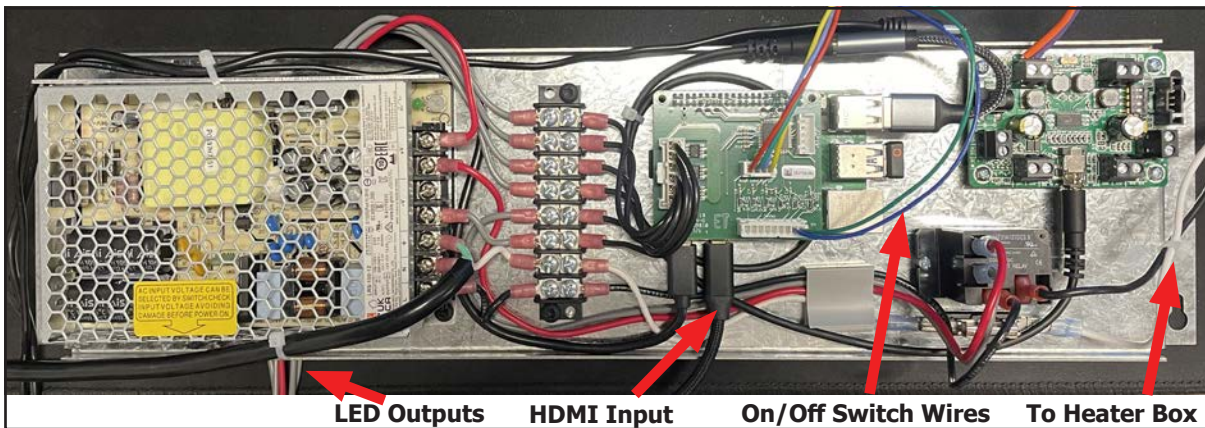

Figure 24: Component Tray
- a. The HDMI cable from the control board (See Figure 24).
- b. The grey and red LED output wires (See Figure 24) from the wire harness mounted to the chassis.
- c. The black and white heater output wires (See Figure 24) where they connect to the heater box at the front of the unit.
- d. Disconnect the blue and green wires (See Figure 24) from the on/off button on the front face of the unit.